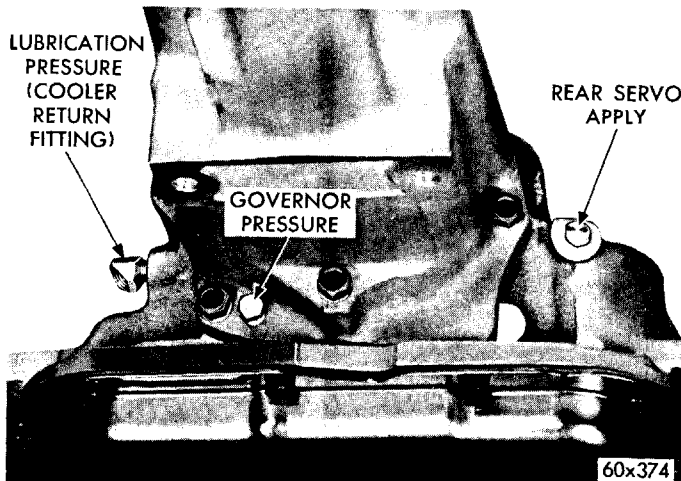

Fig. 15—Pressure Test Locations (Rear End of Case)
(1) Install a "tee" fitting between the cooler return line fitting and fitting hole in transmission case at rear of left side of transmission (Fig. 15). Connect a 0-100 psi pressure gauge, Tool C-3292 to the "tee" fitting.
(2) At 800 engine rpm, with throttle closed and transmission in direct, lubrication pressure should be 5-25 psi.
(1) Connect a 0-100 psi pressure gauge, Tool C-3292 to the governor pressure take-off point, located at lower left rear corner of extension mounting flange (Fig. 15).
(2) Governor pressures should fall within the limits given in the following chart: